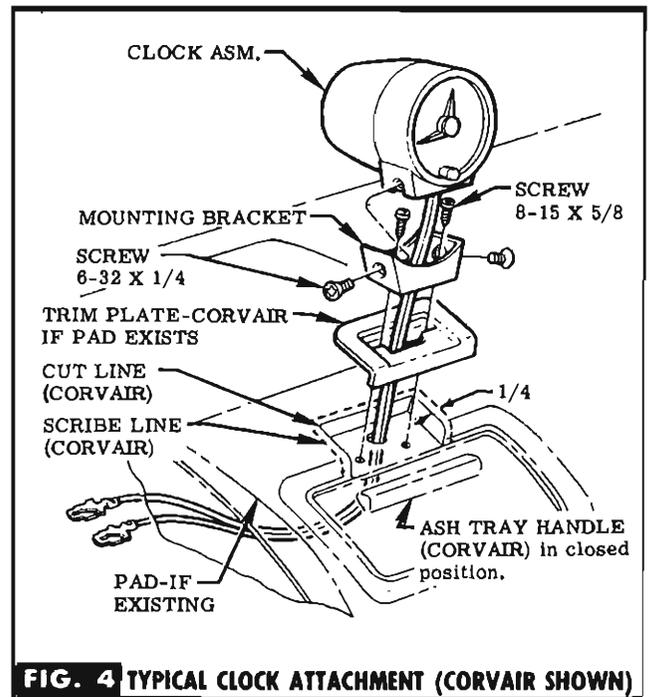

FIG. 4 TYPICAL CLOCK ATTACHMENT (CORVAIR SHOWN)
STEP 2 (ON CORVAIR WITH PADDED DASH) PLACE MOUNTING BRACKET IN TRIM PLATE & LOOSELY INSTALL. SCRIBE AROUND PLATE, REMOVE PLATE & MOUNTING BRACKET & CUT PAD 1/4" INSIDE OF SCRIBED AREA. SEE FIG. 4.
STEP 3 INSERT CLOCK WIRES THRU CENTER HOLE IN MOUNTING BRACKET & TRIM PLATE (IF REQUIRED) & ATTACH BRACKET TO INSTRUMENT PANEL WITH SCREWS. SEE FIG. 4.
STEP 4 ATTACH CLOCK TO MOUNTING BRACKET WITH SCREWS. SEE FIG. 4. **NOTE** (ON CORVAIR) Close cover on Ash Tray & install into Instrument Panel with handle next to clock. This is 180° from previously installed position.